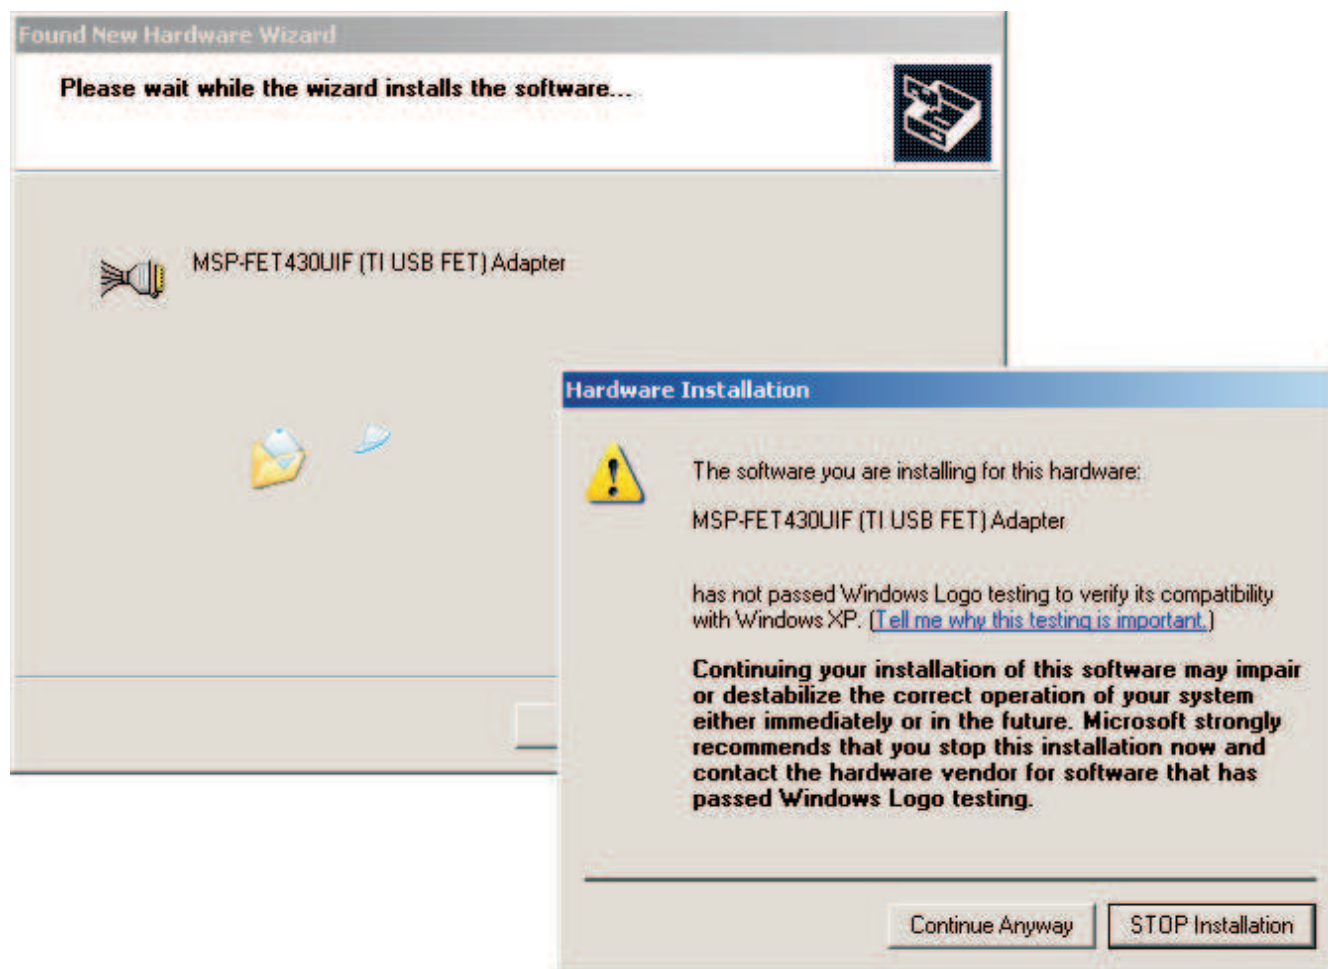

Figure E-4. WinXP Driver Installation
7. Note that WinXP shows a warning that the driver is not certified by Microsoft®. Ignore this warning and click "Continue Anyway" (see Figure E-4).